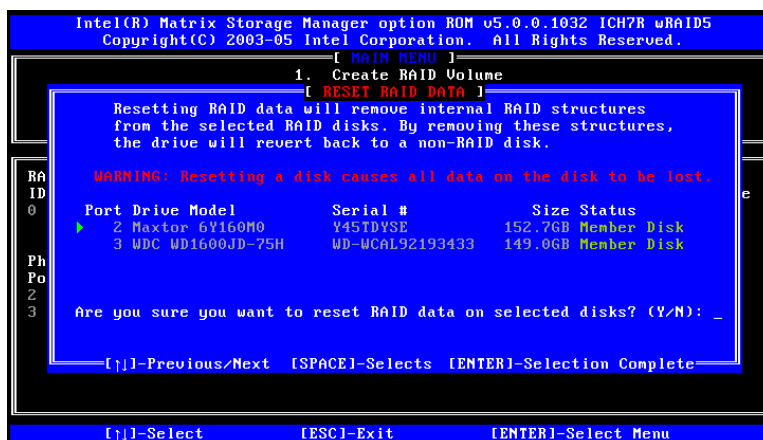

Figure F-14: Reset Disk Verification
Step 3: Reset Disk Verification. After reading the warning, press **Y** to reset the selected disks as non-RAID, or **N** to return to the **Reset RAID Data** menu. See Figure F-14.